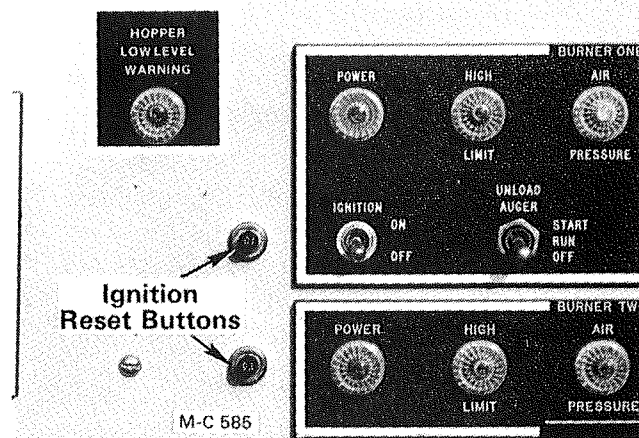

Figure 12
7. **All models except B-12** - If after several attempts for ignition there is still no flame, push the .01 (1/10th) amp. ignition reset button (circuit breaker) on the control panel, see Figure 12. This circuit breaker protects the ignition board from heat build up due to repeated ignition attempts.